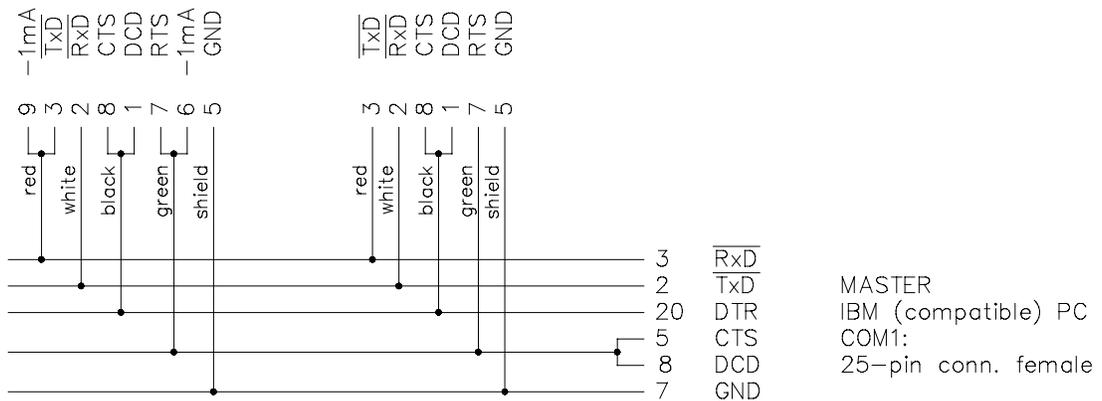

Figure 16 Connection between FSC system and FSC user station:
- Using a 25-pin connector with hardware handshake (see Figure 16).